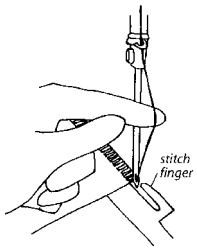

Figure 23.
- **Continuous stitching.** To turn an outside corner, stitch one stitch past the edge of the fabric. Raise the needle and the presser foot. Pull a small amount of slack in the needle thread (Figure 23). Slip stitches off the stitch finger and pivot the fabric. Position the needle at the top edge of the fabric the same distance in from the unstitched edge as the previous stitching. Lower the presser foot. Turn the handwheel (flywheel) until the needle is ready to touch and go into the fabric.